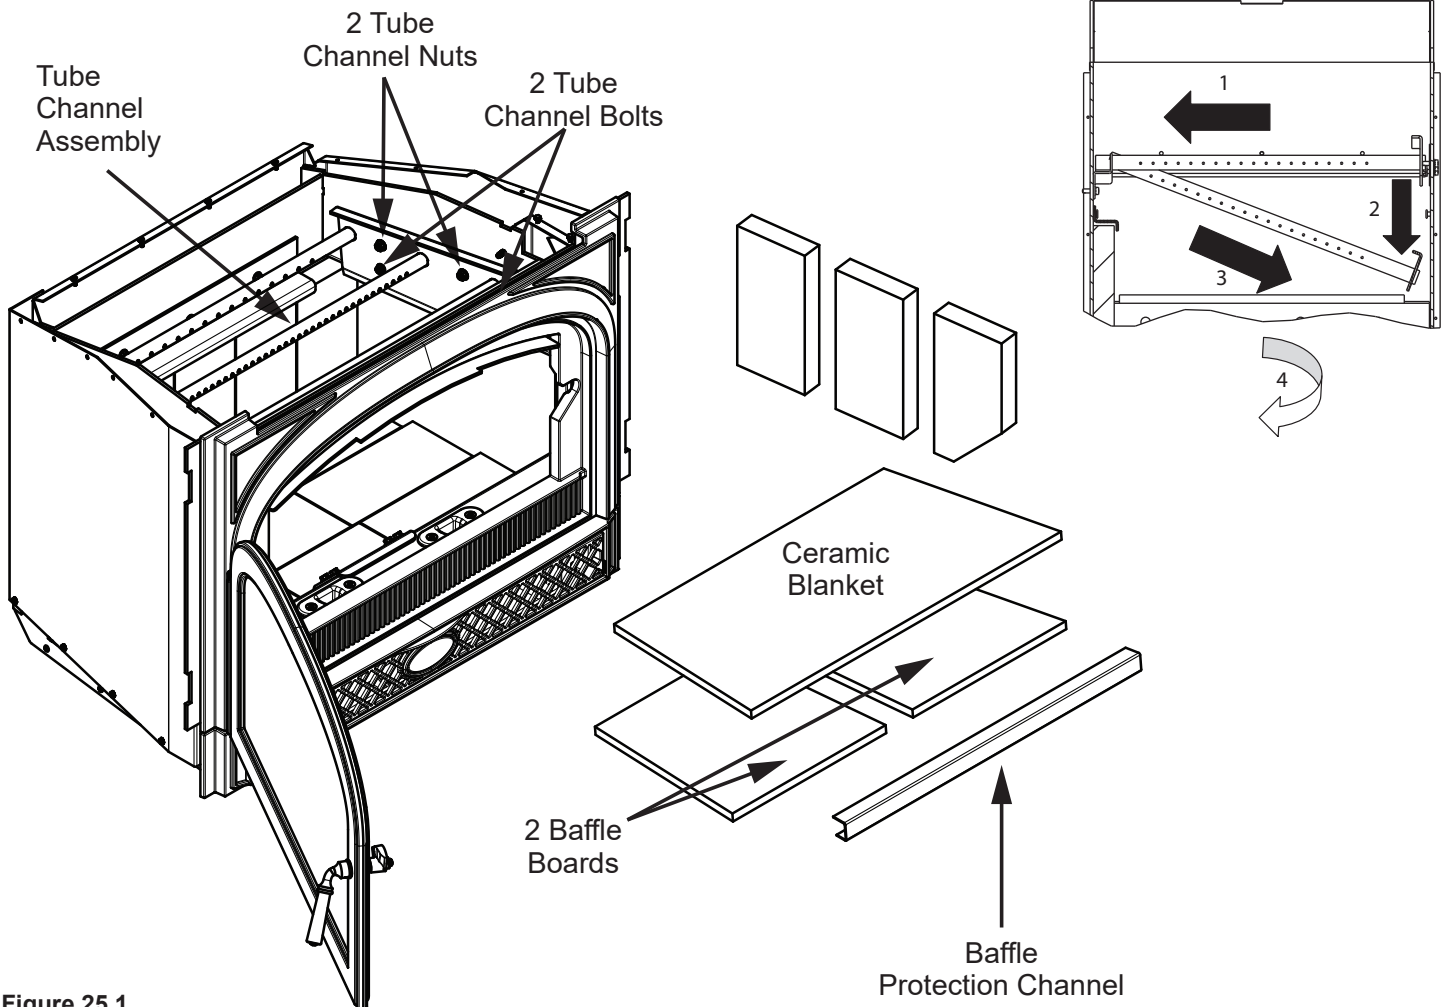

Figure 25.1
4. Slide the tube channel assembly all the way to left until it is off the threads. Drop the right side down, then slide the assembly back to right (Figure 25.1).